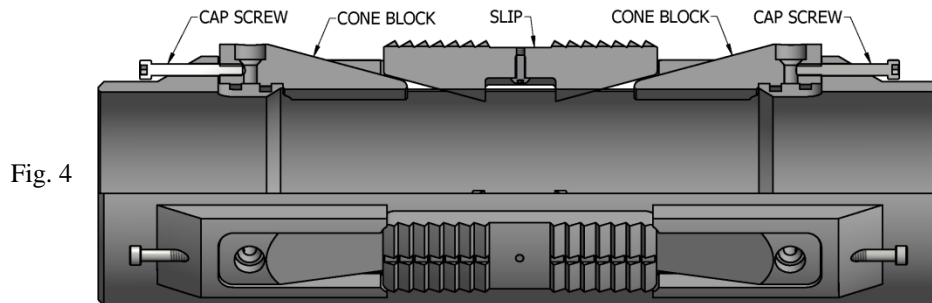

Fig. 4
- I-1.2.3) Install lower cone blocks (5) into slip body (7). Align threaded holes in cone blocks (5) with holes in slip body (7) (Fig. 4).
- I-1.2.4) Screw cap screws (19) into lower cone blocks (5) (Fig. 4).
- I-1.2.5) Install slips (8) and upper cone blocks (5) into slip body (7) one at a time (Fig. 4).
- I-1.2.6) For each slip (10), press slip (10) and upper cone block (7) outwards to align threaded hole in cone block (7) with hole in slip body (7). Screw cap screw (19) into cone block (7)
- I-1.2.7) Install slip body assembly onto mandrel (2). Align lower cone blocks (5) with flats on upper end of support sleeve (6). Align holes in cone blocks (5) with threaded holes in support sleeve (6).
- I-1.2.8) Unscrew and remove cap screws (29) from lower cone blocks (5). Ensure lower cone blocks (5) are mated with grooves in support sleeve (6). Screw flat head cap screws (10) into support sleeve (6).
- I-1.3) Install sleeve (4) onto inner mandrel (2). Align flats in lower end of sleeve (4) with upper cone blocks (5). Align threaded holes in sleeve (4) with holes in cone blocks (5).
- I-1.4) Unscrew and remove cap screws (29) from cone blocks (5). Ensure cone blocks (5) are mated with grooves in sleeve (4). Screw flat head cap screws (15) into sleeve (4).
- I-1.5) Install pick-up ring (12) in groove in upper end of inner mandrel (2).
- I-1.6) Install sleeve cap (3) onto inner mandrel (2) and screw onto sleeve (4)
- I-1.7) Screw set screws (14) into sleeve cap (3).
- I-1.8) Install compression spring (13) onto inner mandrel (2).
- I-1.9) Screw top sub (1) onto inner mandrel (2).